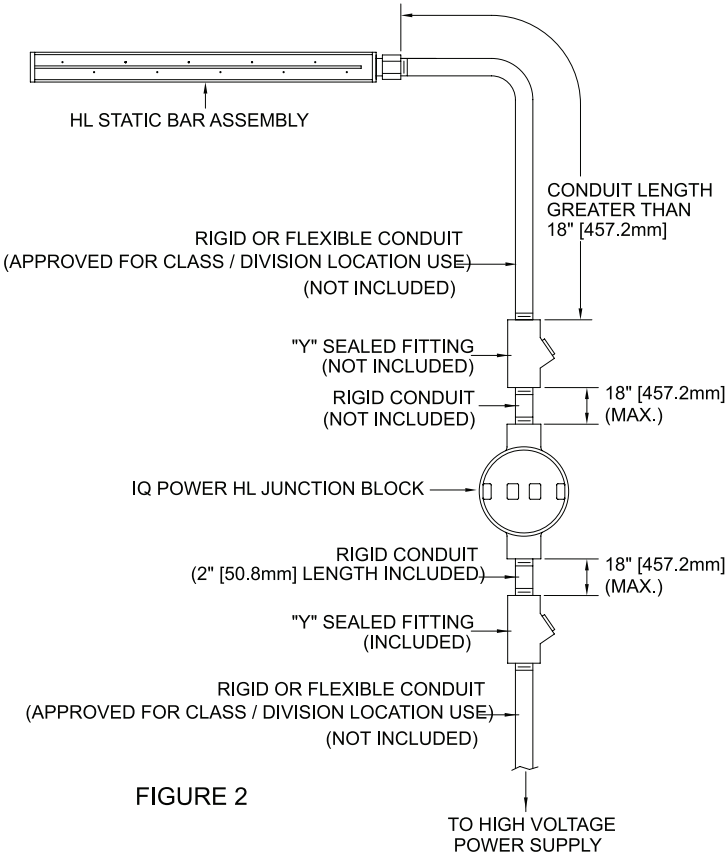

FIGURE 2
1. Installations that have greater than 18" of conduit between the static bar and HL Junction Block will require two (2) sealing fittings at the junction block, see **Figure 2**.